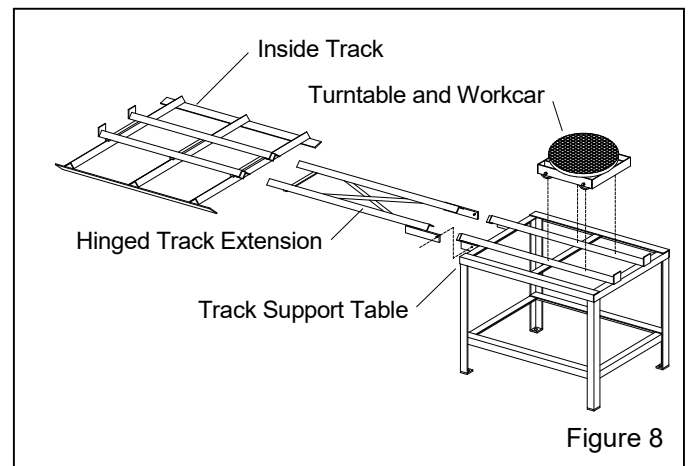

Figure 8
3.2.1 Components of the turntable and track assembly are shown in Figure 8. The assembly consists of: